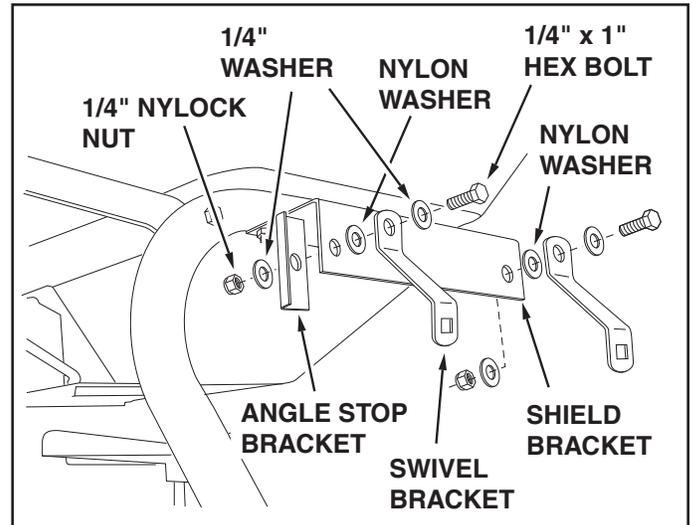

FIGURE 6
- Attach the spreader's mounting brackets to the vehicle's rear rack using four 5/16" x 1-3/4" carriage bolts, mounting clamps and plastic knobs. Use the adhesive pads to protect the rack. See figure 6.